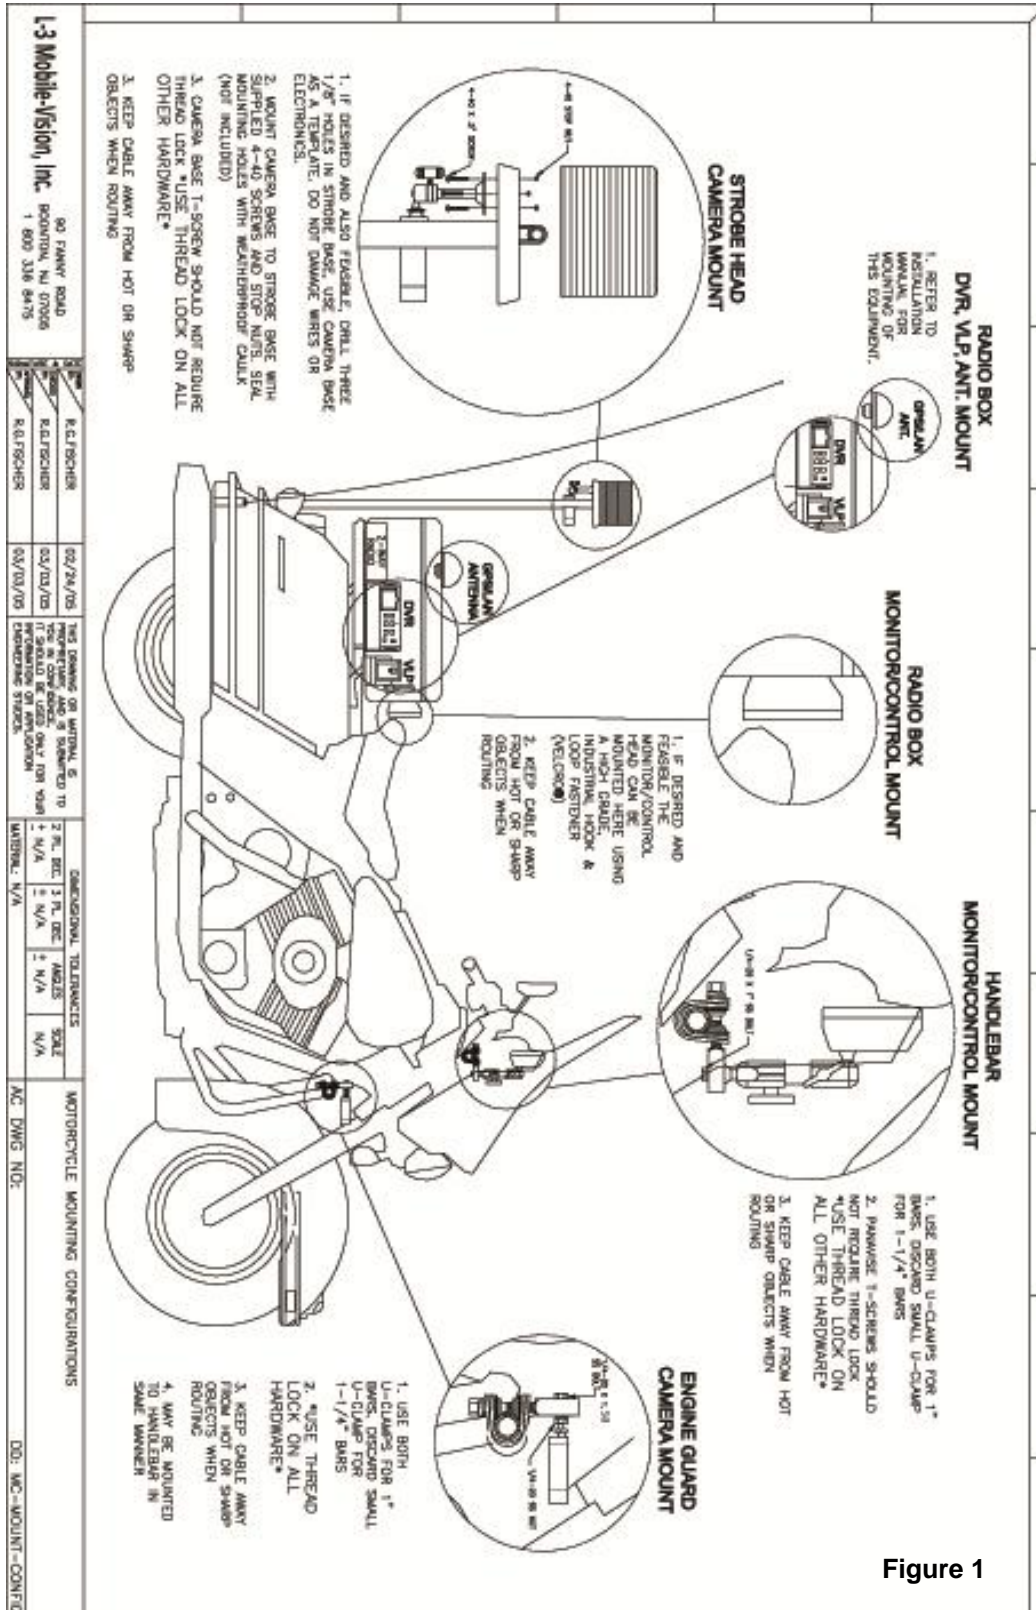

Figure 1
There are two methods of mounting the Bullet Camera. You can mount the camera using the Swivel Mount to the Strobe Head or Engine Guard using the Motorcycle Universal Mount. Refer to Figures 1, 4, & 5.
There are two methods of mounting the Monitor Console. It can be attached to a PanaVise® mounting arm, allowing the user to adjust the monitor's position and angle for convenient access and optimum viewing. Or it can be mounted to the outside of the radio box using an industrial grade Hook and Loop fastener (Velcro®). Refer to Figures 1, 6 & 7.
4. Install assembly as illustrated in Figure 1.